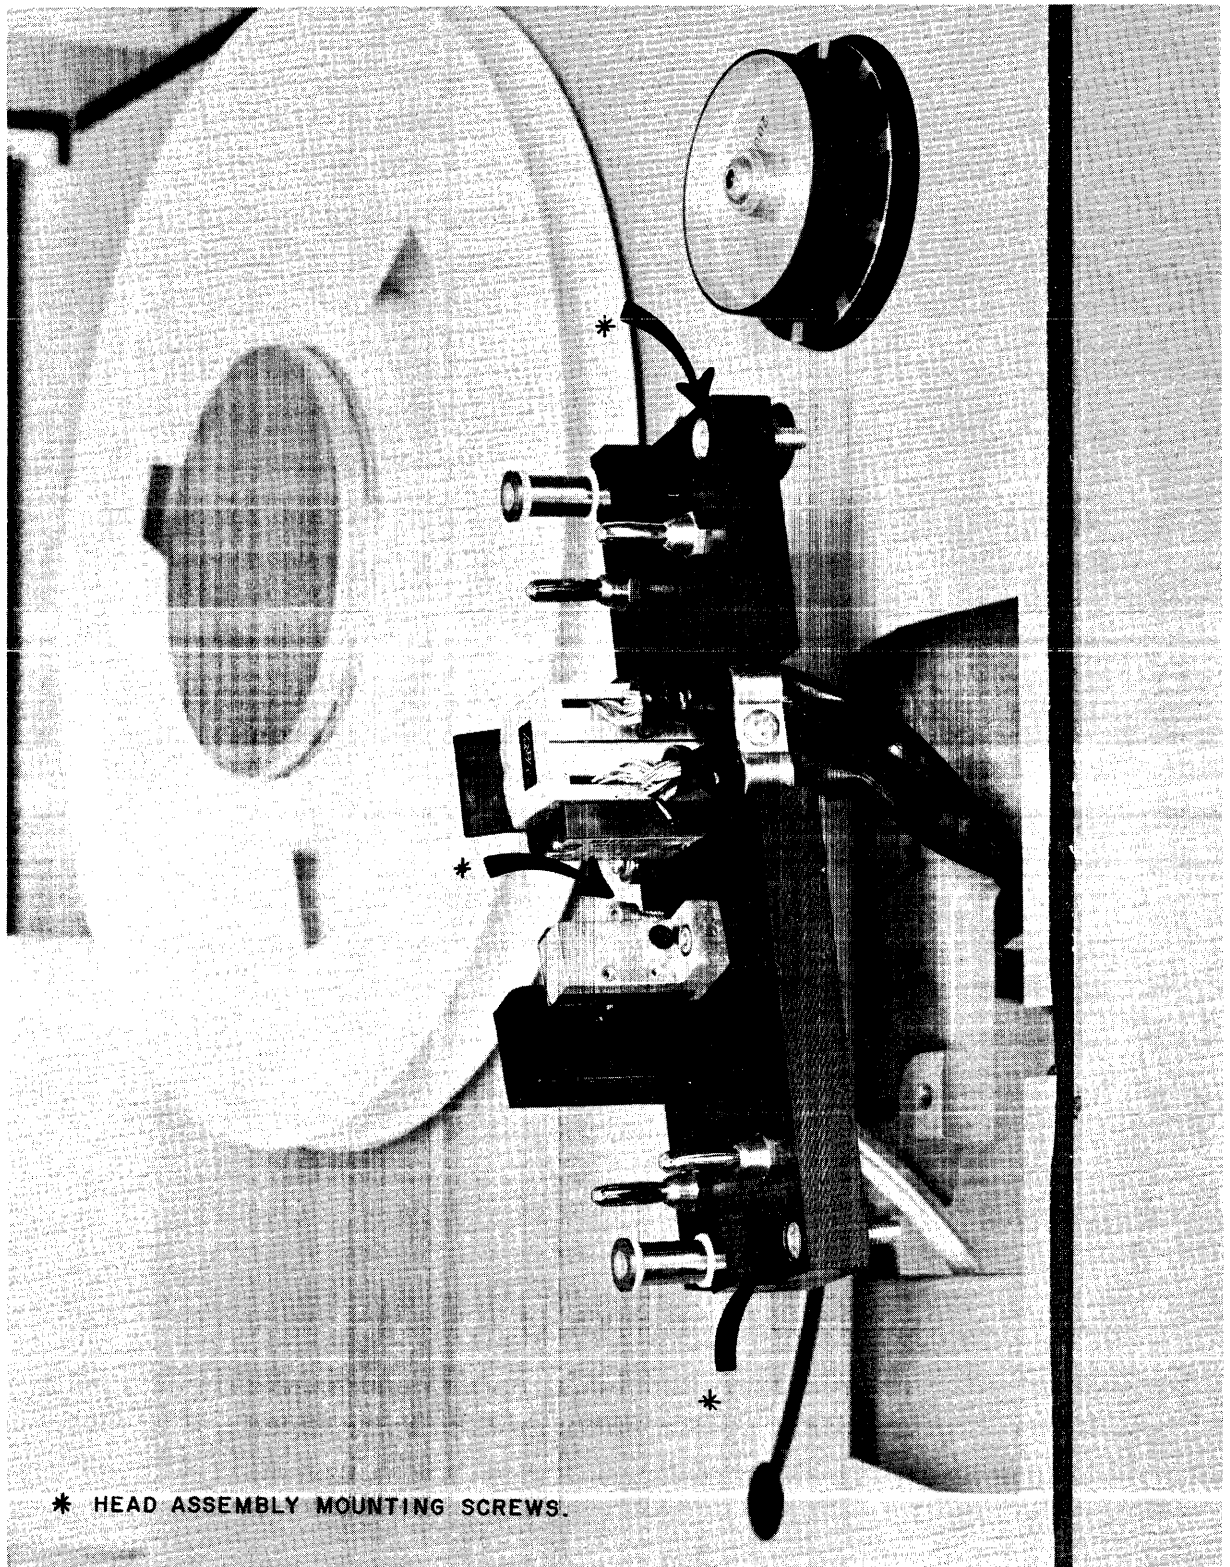

Figure 47. Head Assembly Removal
2. Remove both pieces of head cover and remove the three large Allen screws fastening the head plate assembly to the deck. These screws are shown in the photograph of Figure 47.